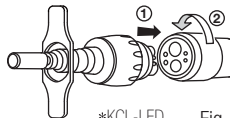

Fig. 2
- 1) To connect, align and insert carefully and firmly the pin of the coupling into the pin holes of the hose, and fasten the hose nut securely.(Fig.2)